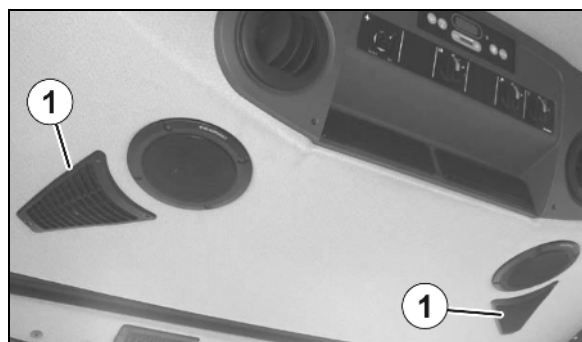

Fig. 185
1. Remove the cover (Fig. 185/1) from the housing (Fig. 185/3).
2. Replace the return filter (Fig. 185/2).